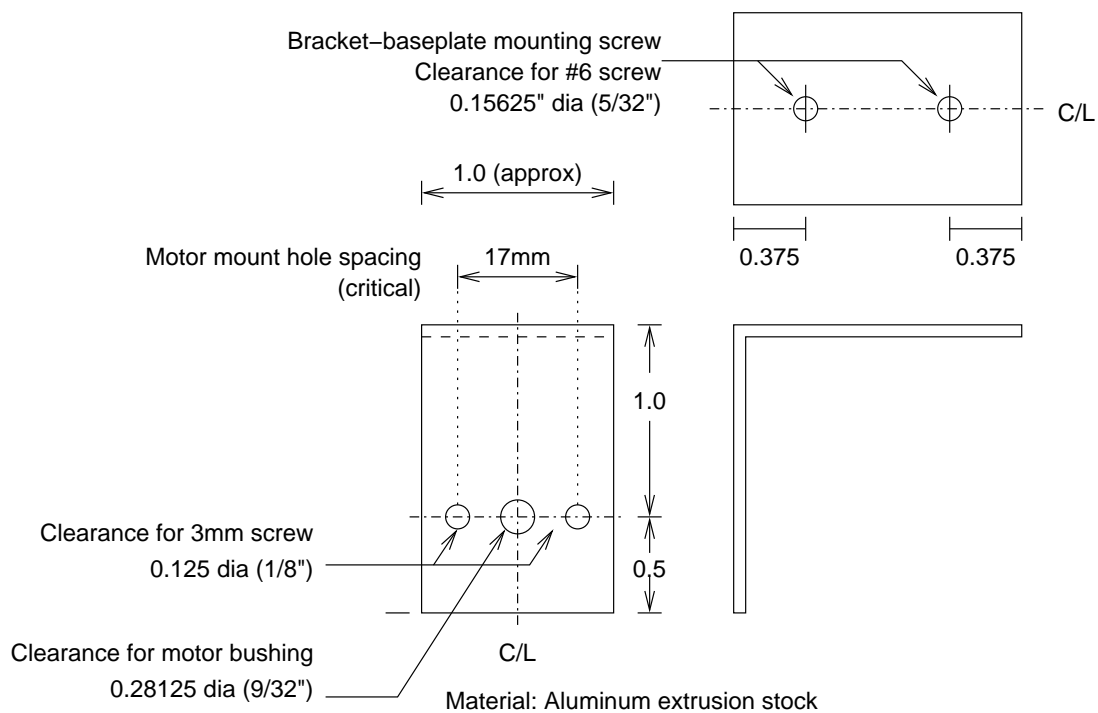

Figure 6: Motor Bracket Template, Full Scale
3. Use the full-size template of figure 6 on page 6 to lay out the bracket drill holes. The baseplate mounting holes are not critical, but the motor mounting holes are. Check the spacing against the motor itself. After marking the motor mounting holes, carefully transfer the spacing of the holes on the actual motor to a piece of paper and check it against the hole centres on the bracket.